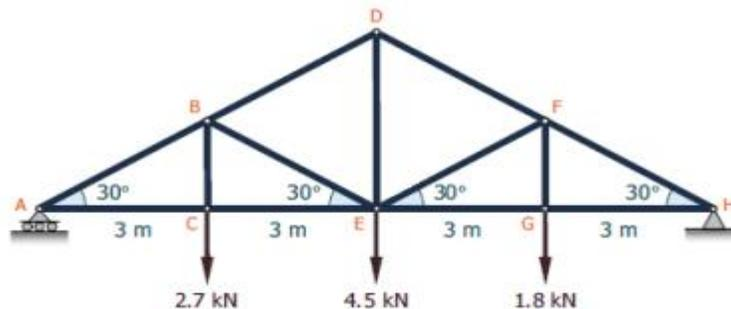

Figure.3
16. Determine the force in members AB, BD, BE, and DE of the Howe roof truss shown in Figure.3, by using method of joints. 16 CO5 [K₃]